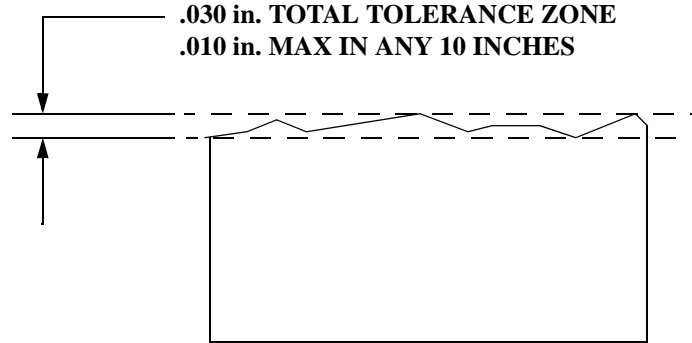

FIGURE 1: FLATNESS TOLERANCE
- 2.1.2. The surface must be within the specified tolerance of size and must lie between two parallel planes, 0.030 inches apart. Ref. Figure 1.